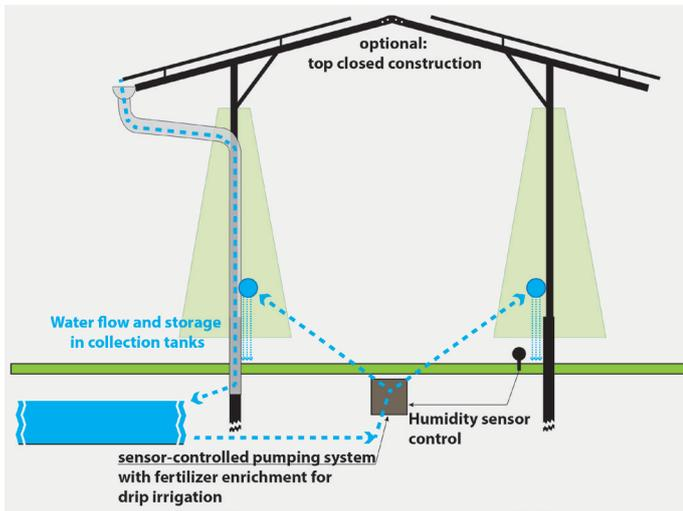

Figure 5: Schematic representation of the irrigation system of an AgriPV plant.
The connection values and thus the power yields are higher in closed constructions (B) than in open constructions (A). In both cases, the combination with systems for rainwater harvesting is useful through gutters that direct the water into collection basins. From there, enriched with nutrients if necessary, it can be used for drip irrigation via hoses attached to the supports. If irrigation is controlled via moisture sensors in the soil, up to 95% of the increasingly precious water can be saved (see figure 5).